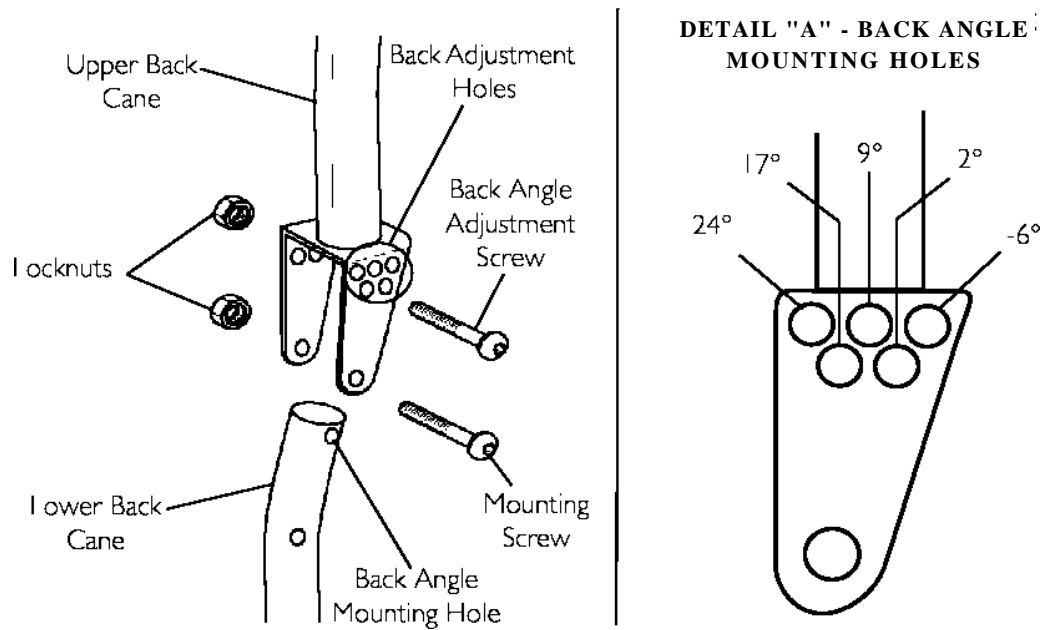

FIGURE 4.6 Adjusting the Back Angle
NOTE: For this procedure, refer to FIGURE 4.6.
2. Reposition the back to the desired angle. Refer to Detail "A" of FIGURE 4.6.